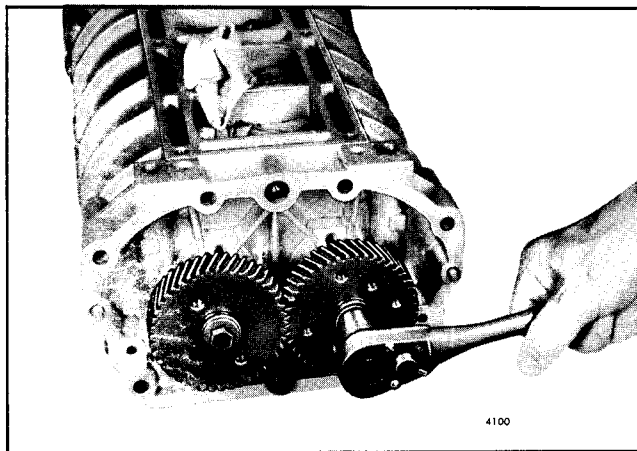

Fig. 17 - Installing Blower Rotor Gears
g. Place the rotor gear pilots (43) on two 3/8" -24 x 2-3/4" bolts, then thread a bolt into the end of each rotor shaft. Place a clean shop towel between the rotors and one between the rotor and the housing (Fig. 17) to prevent the gears from turning. Then draw the gears approximately half-way on the rotor shafts.
- k. Thread the hex head bolt in the left-hand helix rotor shaft and the twelve point head bolt in the right-hand helix rotor shaft and draw the rotor gears into position tight against the shims and the bearing inner races as shown in Fig. 17. Tighten the bolts to 50-55 lb-ft (68-75 Nm) torque.